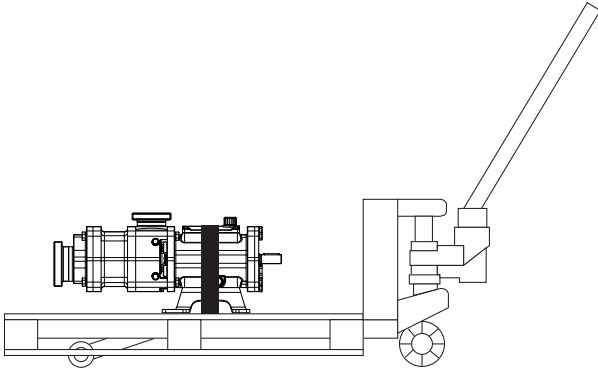

Fig. 16 Transport using lift truck
- ▶ Check whether the pump is adequately secured on the pallet. For instance using straps Fig. 16 "Transport using lift truck", Page 24.